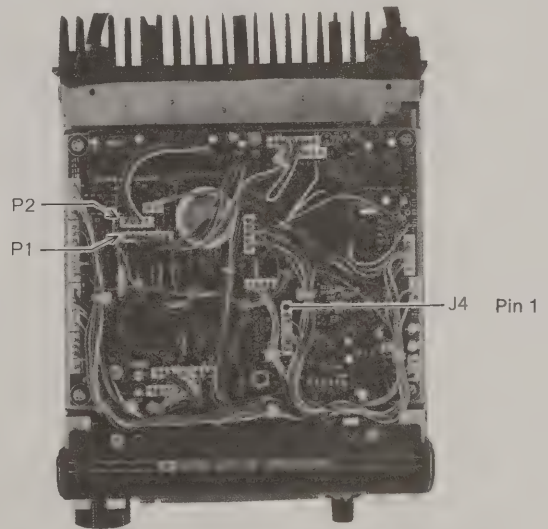

Fig. 3
- 4) Insert the connectors P1 and P2 from the unit into the connectors J5 and J6. (Fig. 3)